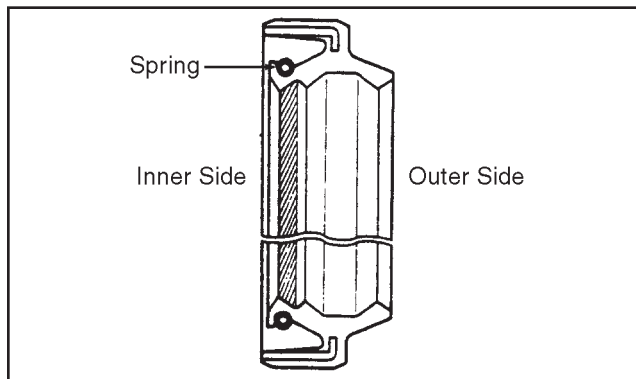

Figure 4G-33. Extension Case Oil Seal
- Refer to Figure 4G-3, install the extension case and torque mounting bolts to 13.5 to 20.0 ft-lbs. (18 to 28 N.m).